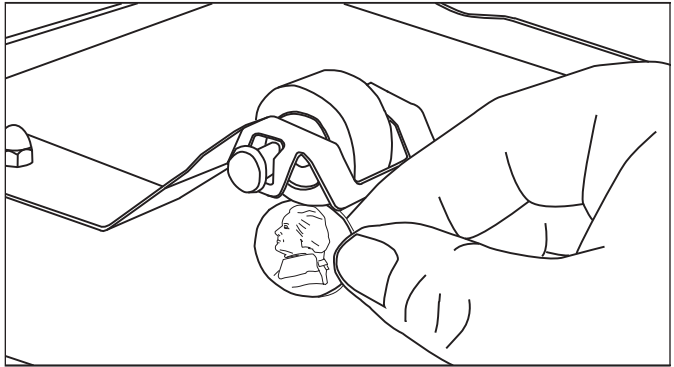

Figure 12. Measuring Roller Tensioner
1. Measure the Roller Tensioner on both inner Conveyor Covers (Figure 12) using a U.S. Nickel.